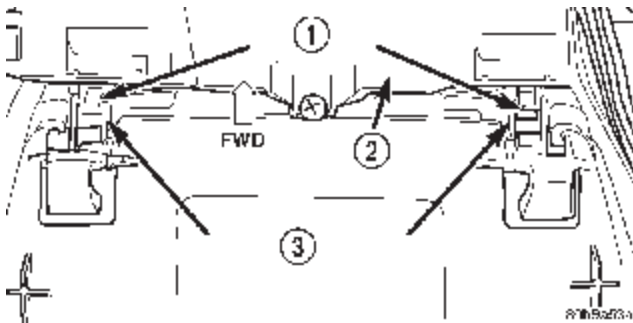

Fig. 6 Garage Door Opener Storage Bin Door Pivot Latches
(1) Disconnect and isolate the battery negative cable.
(2) Remove the overhead console from the headliner. Refer to **Overhead Console** in the Removal and Installation section of this group for the procedures.
(3) If the vehicle is so equipped, remove the three screws that secure the compass mini-trip computer module to the back side of the overhead console housing. Move the module aside as needed for access to the pivot latches that are integral to the overhead console housing for the garage door opener storage bin door pivot pins.
(4) Open the garage door opener storage bin door.
(5) From the back side of the overhead console housing, gently pry one of the pivot latches (Fig. 6) forward while pulling the garage door opener storage bin door pivot arm rearward until the pivot pin is disengaged from the latch. Repeat this step to disengage the second pivot pin from its pivot latch.